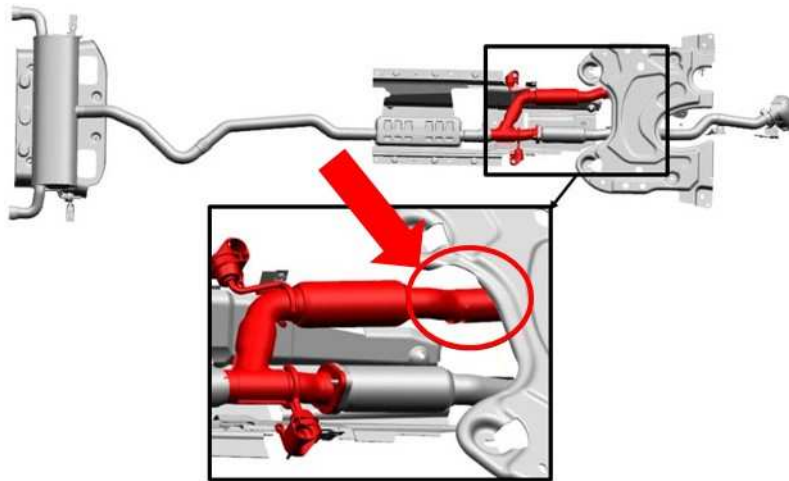

Fig. 1
3. Inspect the passenger side under floor exhaust pipe in the area downstream of the catalytic converter flange but before the flex assembly. Measure the clearance between the exhaust and the steel skid plate (Fig. 1). The measurement should be **greater than 20 mm (0.78 in.)**.